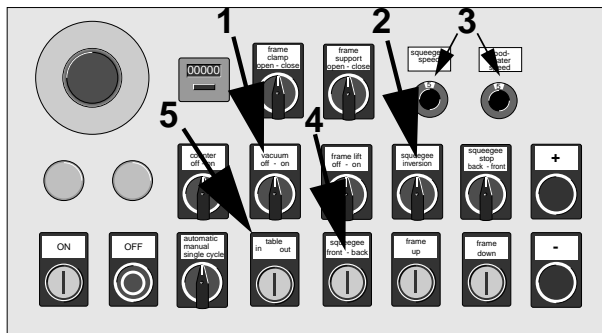

Figure 3-7. Control panel
- \* Turn ON the vacuum (1, Figure 3-7).
- \* Using **squeegee inversion** (2), move the squeegee cylinders to the upper position.
- \* Set the controls for squeegee and flood coater speed to the minimum value (3, Figure 3-7).
- \* Check the movements of the print table with **table in - out** (5, Figure 3-7). Leave the table outside the machine.